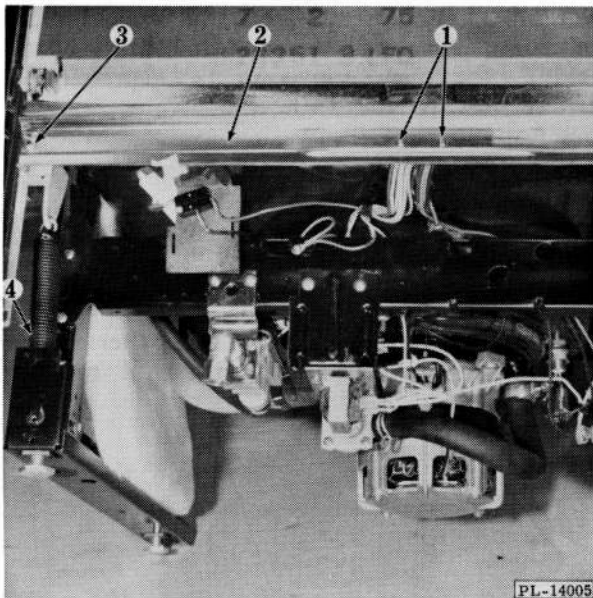

Fig. 19
Evaporation Channel (2, Fig. 19)
2. Remove two retaining screws (one at each end) (3, Fig. 19).
3. Straighten conduit tabs (1, Fig. 19) in center of channel. Remove evaporation channel.
Door Springs (4, Fig. 19)
2. Grasp top portion of spring (4, Fig. 19) and lift spring hook off door stop bracket.